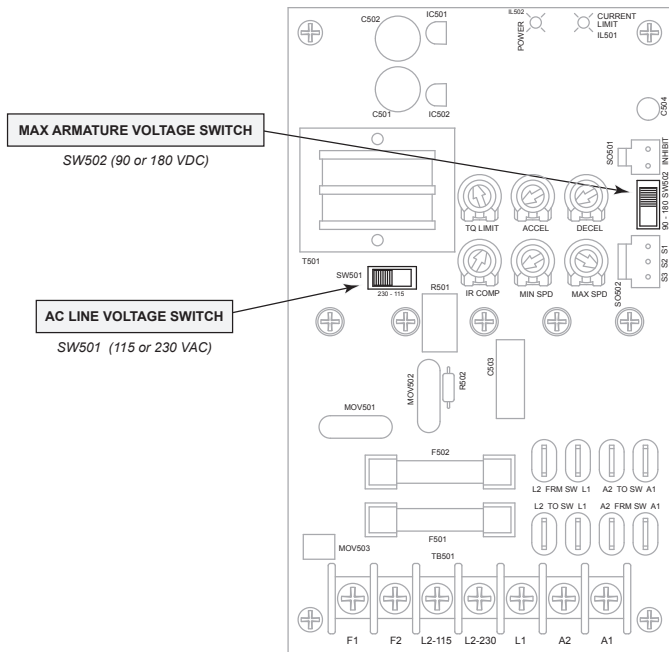

Figure 4. Voltage Switches
- Set voltage switch SW501 to either 115 or 230 to match the AC line voltage (see Figure 4, page 9).
- Set voltage switch SW502 to either 90 or 180 to match the maximum motor armature voltage (see Figure 4, page 9).
- Set voltage switch SW502 to either 90 or 180 to match the maximum armature voltage (see Figure 4, page 9).